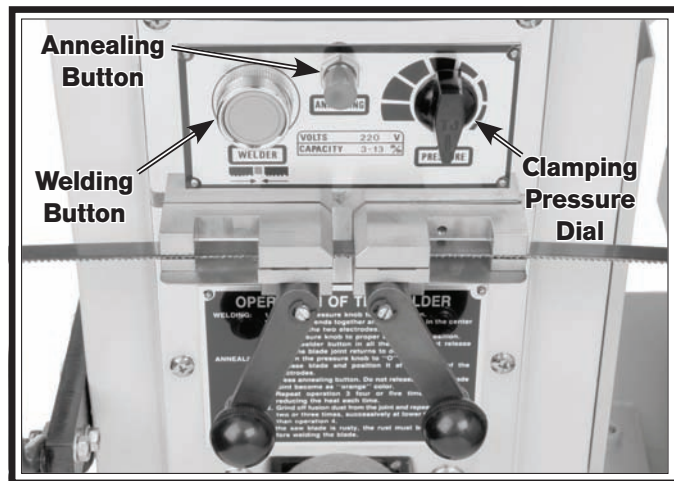

Figure 29. Blade ends in correct position for welding.
4. Set the clamping pressure to 0" with the clamping pressure dial (**Figure 29**).
8. Place the other blade end in the opposite welding clamp and position it so that it evenly butts up against the opposing blade end, then lock it in place by rotating the lock lever all the way up, as shown in **Figure 29**.